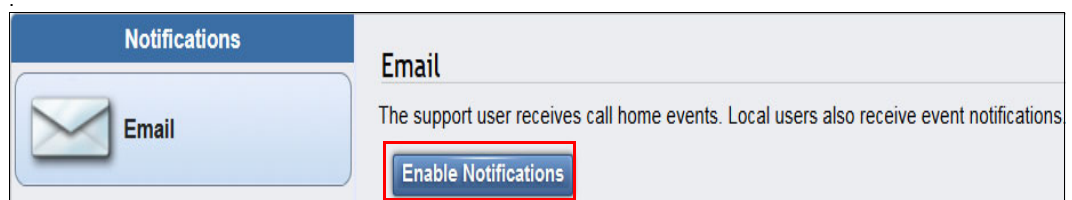

Figure 9-3 Enable Notifications
1. If call home is not set up, a pop-up area opens (Figure 9-3). Initiate the configuration wizard by clicking **Enable Notifications**.